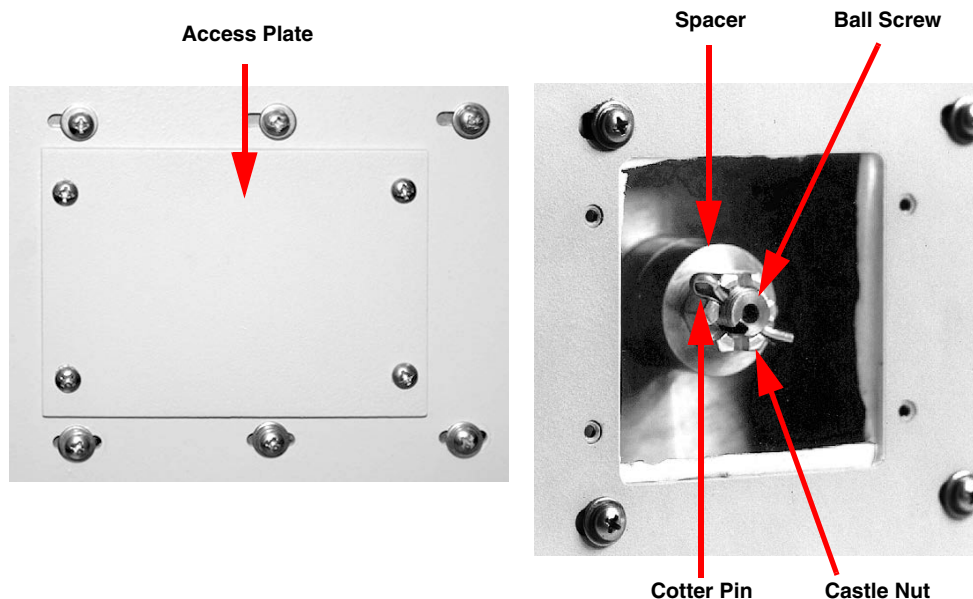

Figure 9-10 Accessing the shear key
1. Place the pump on its side and remove the four panhead screws that attach the access plate to the case bottom, as shown in Figure 9-10.